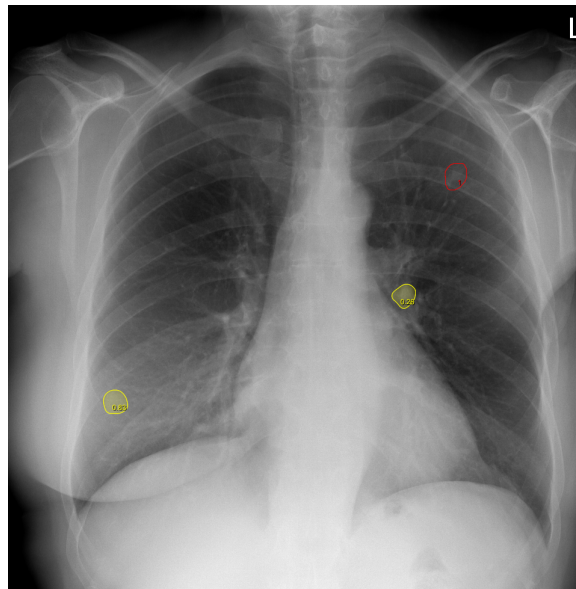

Figure 3: A sample comparison of CAD system detection (yellow annotation) and the ground truth (red annotation).
7. **(Question 2)** Looking at the sample result of the CAD system and the ground truth in Figure 3, will CAD detection in the right lung be considered as a true positive or a false positive in ROC analysis? Why? Propose a modification to overcome this shortcoming. Elaborate your answer.